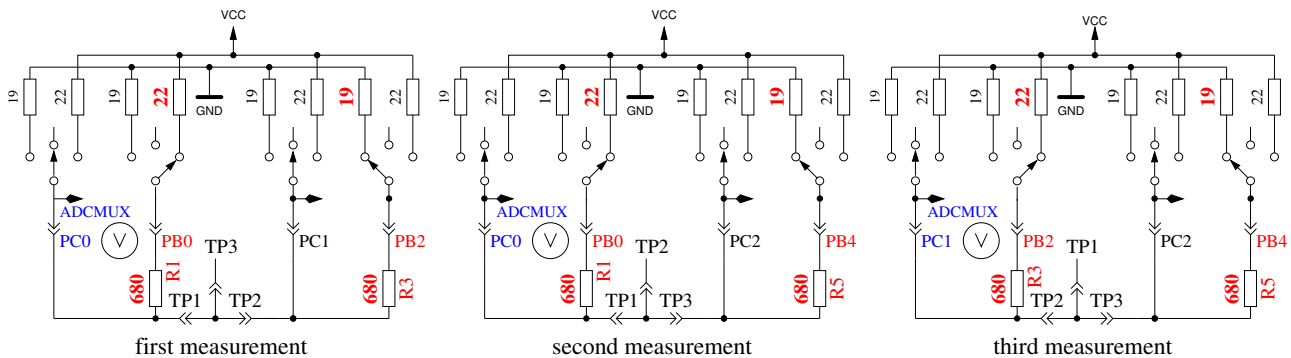

Figure 4.23: Comparison of 680Ω resistors
2. Comparing of the 680Ω resistors. In row 1 the cryptic text +RL- 12 13 23 is shown. Meaning of this is as follows: The RL is the short form of Resistor Low meaning the 680Ω resistors. The 12 stand for: resistor at pin 1 is connected to VCC (+) and resistor at pin 2 is connected to GND (-). The result of this measurement is displayed in row 2 at the first place. In row 1 follows now a 13 which means, that the first connection of measurement 1 is still connected with 680Ω to VCC but that the resistor of pin 3 is connected to GND. The result is displayed in the middle place of row 2. The last measurement of this test 23. means that now the resistor at pin 2 is connected to VCC (+) and the resistor of pin 3 is connected to GND. The result of measurement is displayed at the last place of LCR row 2. Please remember, that the resolution of the ADC is about 4.88mV! The measurement situation is also shown in figure 4.23. All these combinations with respect to the internal resistance of the pins should result to: $\frac{5001 \cdot (19+680)}{(19+680+680+22)} = 2493$.